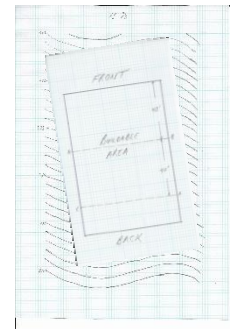

Fig 4
- 8) Skew the buildable area on the contours to the left and repeat steps 3, 4, 5 and 6 (Fig 4).